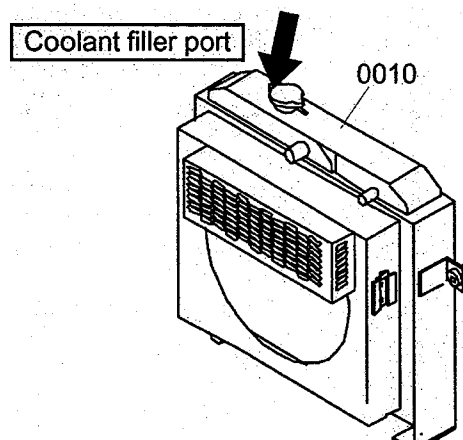

Fig04-12:
13. Fig04-12: Fill the radiator (0010) with the specified amount of coolant. Refer to "Level Check and Addition of Coolant."